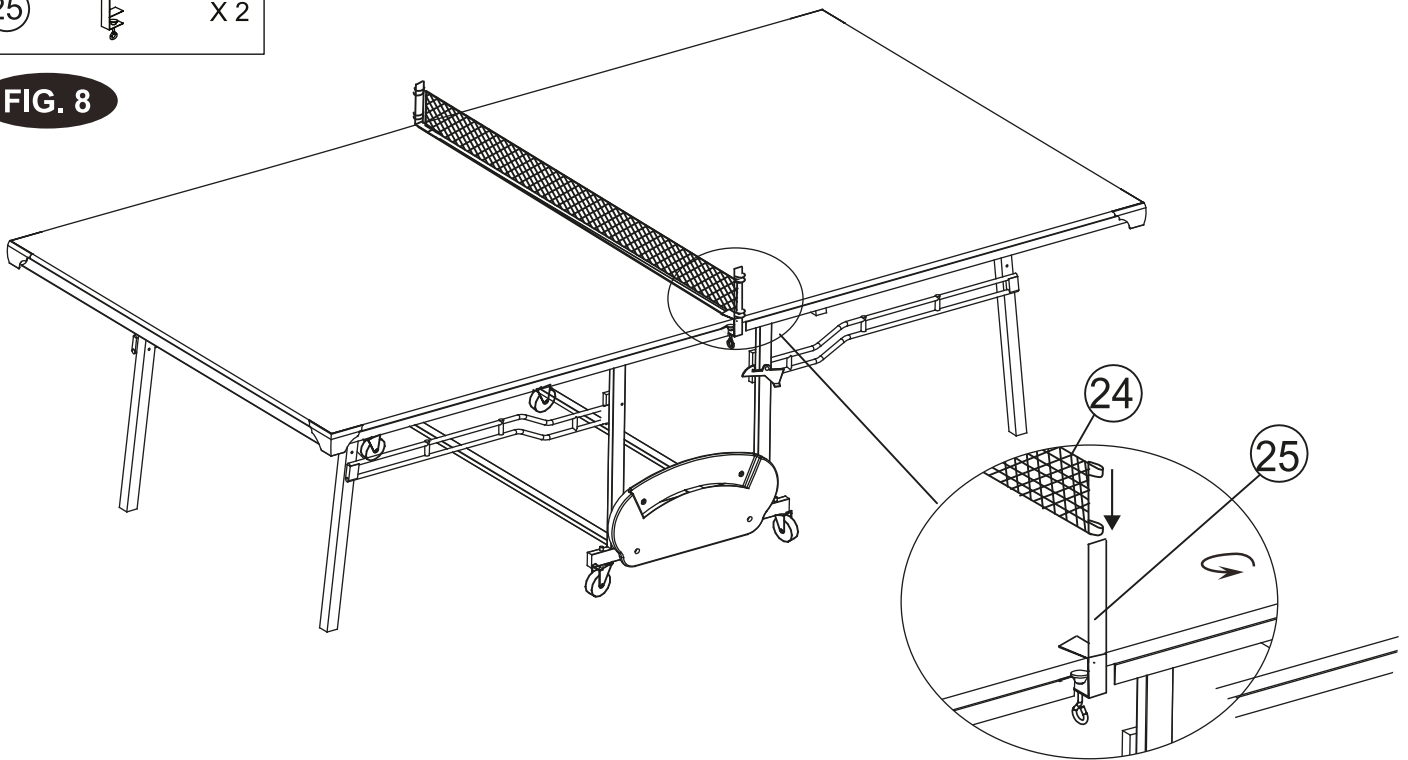

FIG.8
22. Unfold the table halves, then attach the Net Post (#25) at the middle of the table. Stretch the Net (#24) across the center of the table and slip the net over the post on the opposite side. **See FIG.8.**